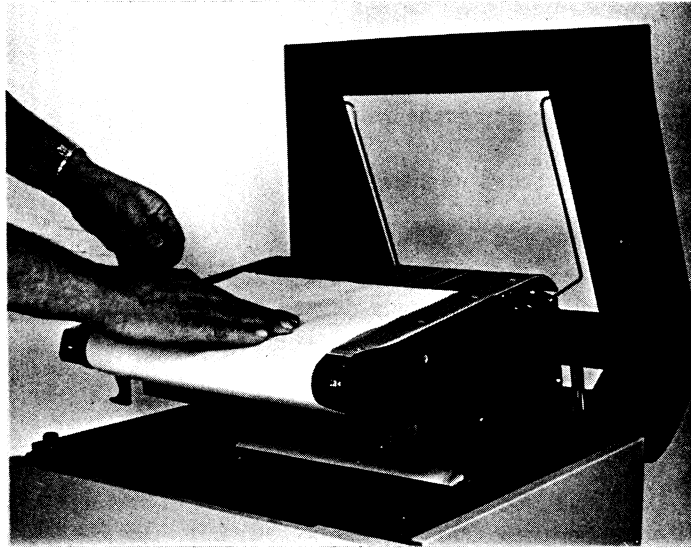

Figure 3-13 Positioning the Paper Left-to-Right on the Paper Roller
8. Pull out about 3 feet of paper as shown in Figure 3-13. Lower the platen module and ensure that the paper is centered right and left on the paper roller, then fold the paper back onto the platen. Close the platen module and lock it in place by pushing the black handle on the left side of the module all the way down.